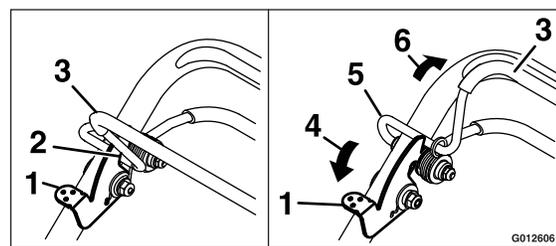

Figure 12
2. Push and hold the blade control lock lever forward to release the blade control bail (Figure 12).